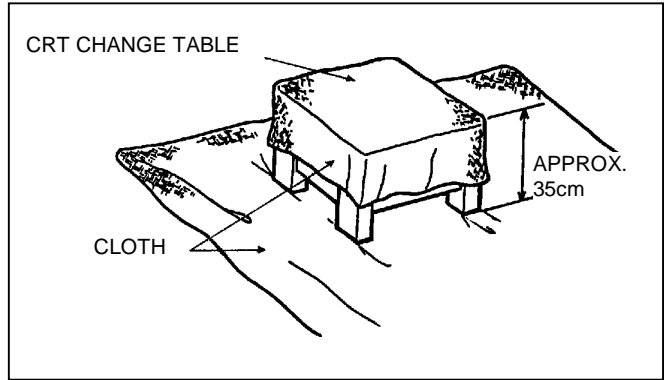

Fig. 5
1. Putting the CRT change table on soft cloth, the CRT change table should also be covered with such soft cloth (shown in Fig.5).
2. While keeping the surface of CRT down, mount the TV set on the CRT change table balanced will as shown in Fig.5.